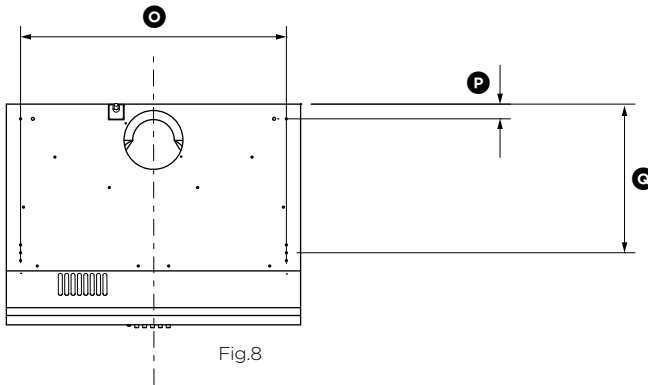

Fig.8
- Attach the rangehood to the cupboard using the mounting holes (refer to Fig.8 below).